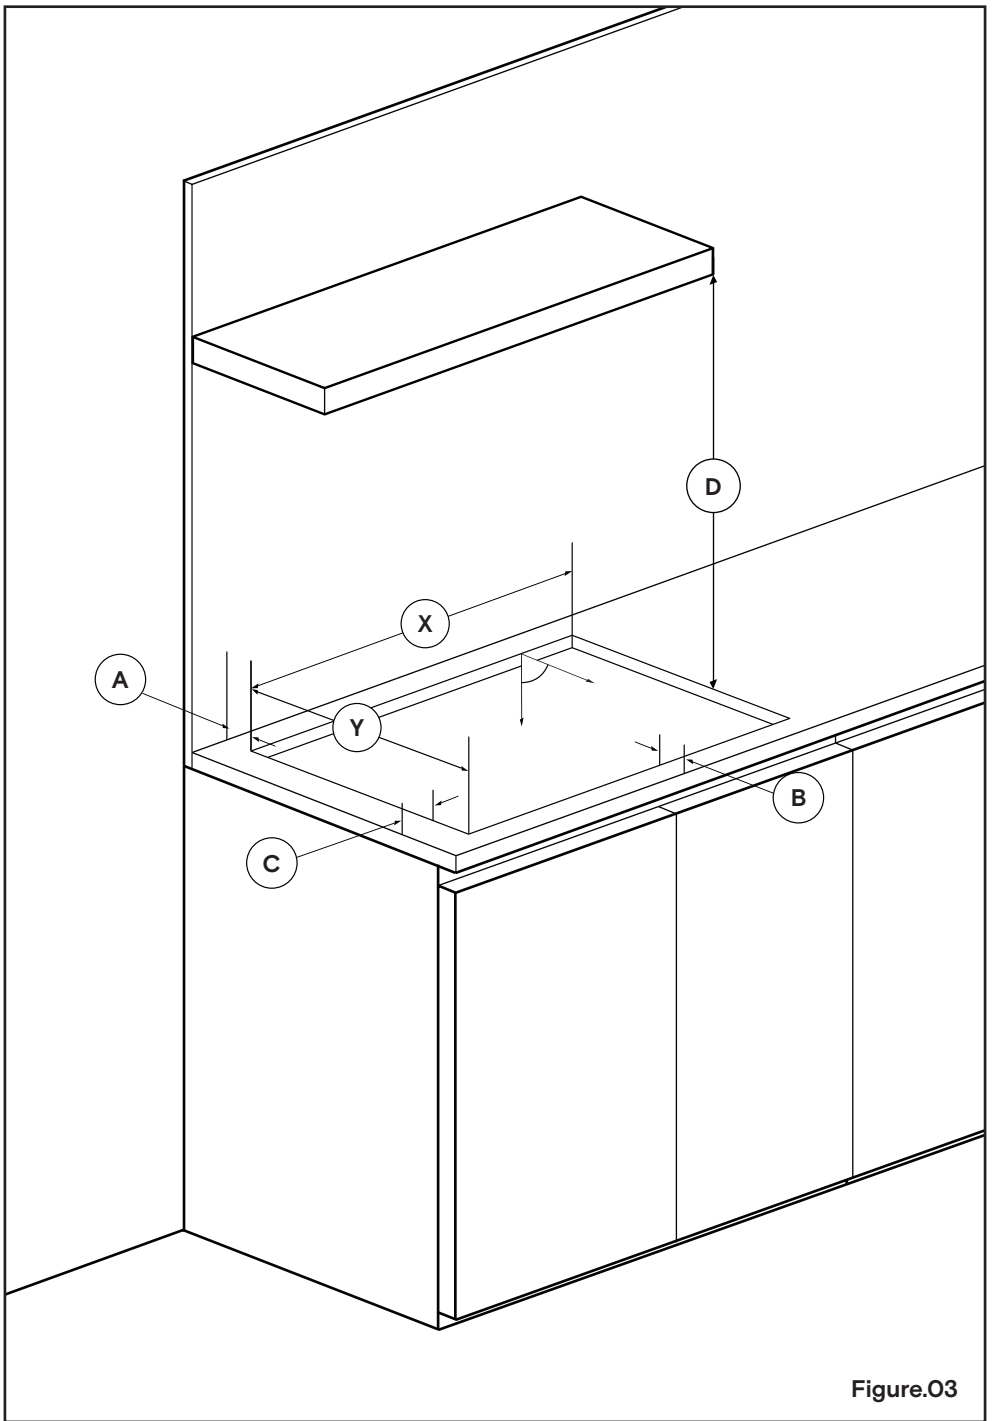

Figure.03
- › Recommended cutout dimensions, see **Figure.03**: